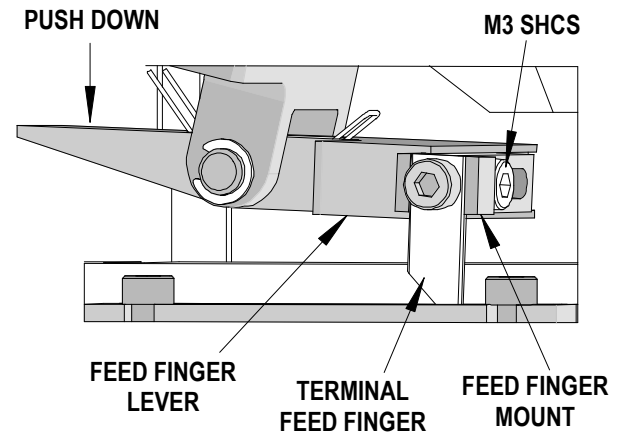

Figure 2-8
3. Using a 2.5mm hex wrench, loosen the M3 SHCS located on the feed finger mount. While holding the feed finger lever down slightly, slide the feed finger to the desired position. See Figure 2-8.